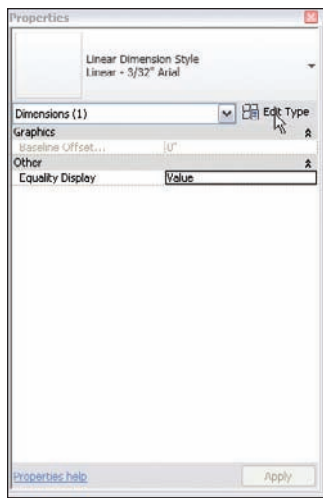

FIGURE 5.13 : Clicking the Edit Type button to begin creating a new dimension style
2. In the Properties dialog, click the Edit Type button as shown in Figure 5.13.